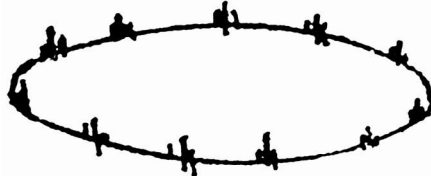

Fig. 27
o) Motor interference (Figure 27), waveform characteristics: discharge waveform is uniformly announced along the elliptic baseline, and each single group number is in the shape of "hill". Cause: motor with commutator, such as fan, hair dryer operation interference.